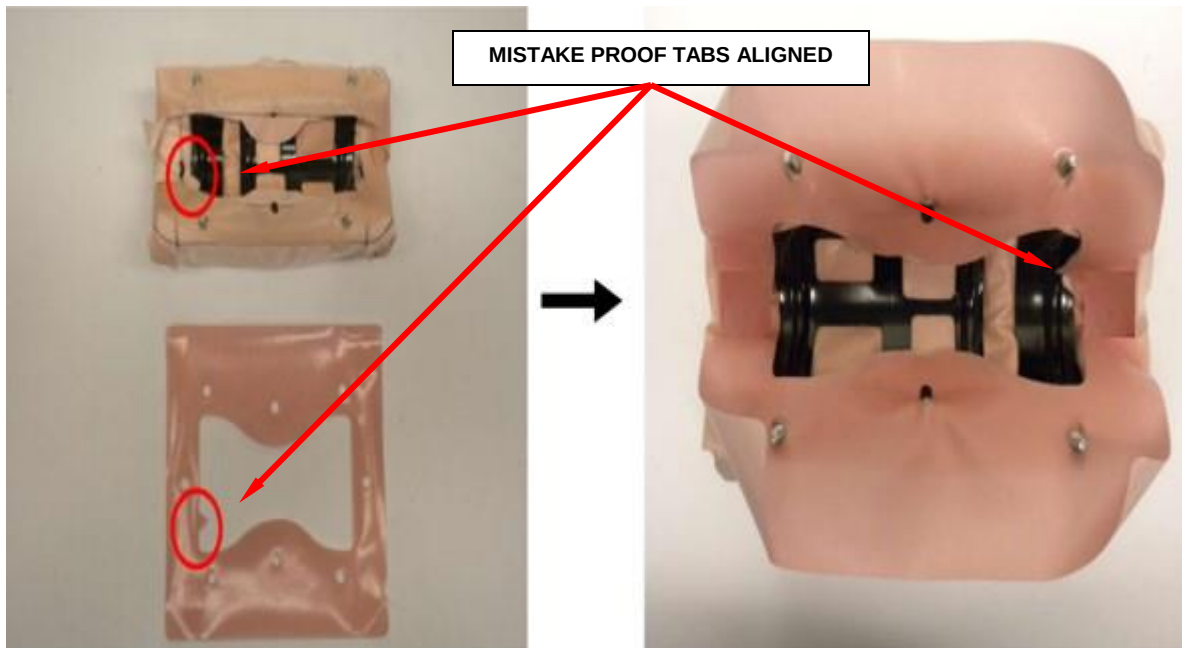

Figure 50 - Fabric Gasket to Cushion (Glossy Side Up)
- i. Place the fabric gasket, glossy side up, onto cushion. Mistake-proof tab should be aligned to the tab on the cushion (Figure 50).